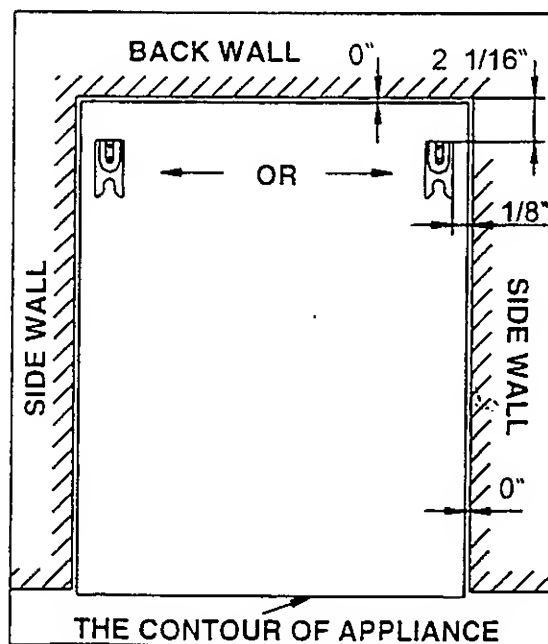

Figure 3
1. Place the anti-tip bracket on the floor as shown in Figure 3. If there is no sidewall, the dimension given as 1/8" will be the distance of right/left side of appliance to right/left side of anti-tip bracket. Anti-tip bracket can be installed on either right or left side.